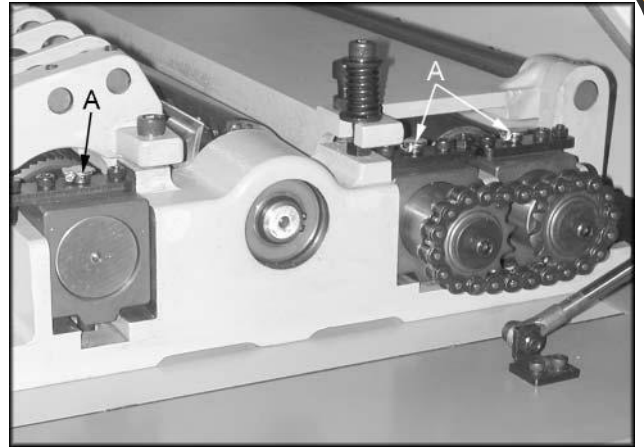

Figure 25
- Add a few drops of medium weight oil to the six oil cups (A, Fig 25) weekly.